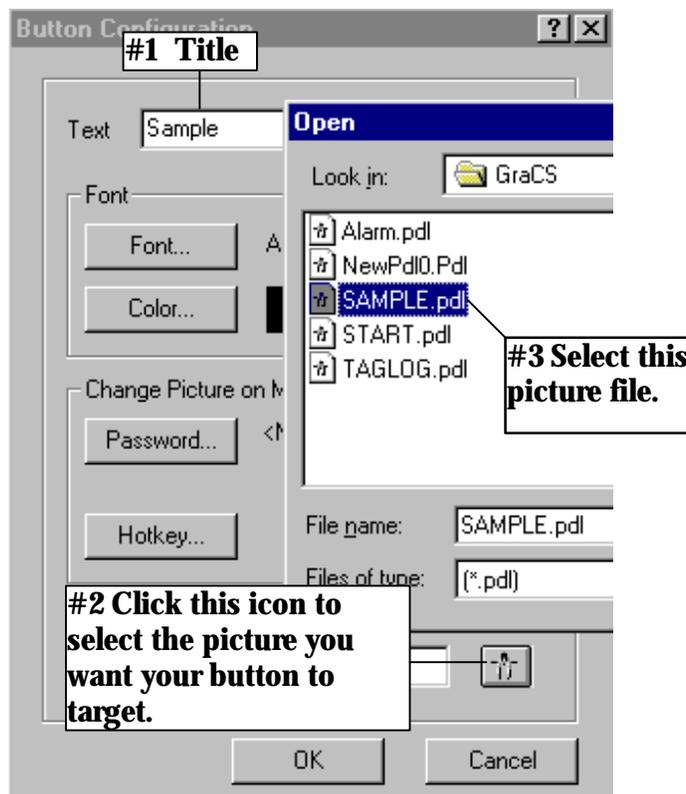

Figure 2.19 WinCC Project "QckStart"; Configuring a Button
- 4. Next you will want to specify the picture you are trying to jump to.** To do this, click the icon next to the "change picture on mouse click" box located at the bottom of the Button Configuration box. See Figure 2.19.